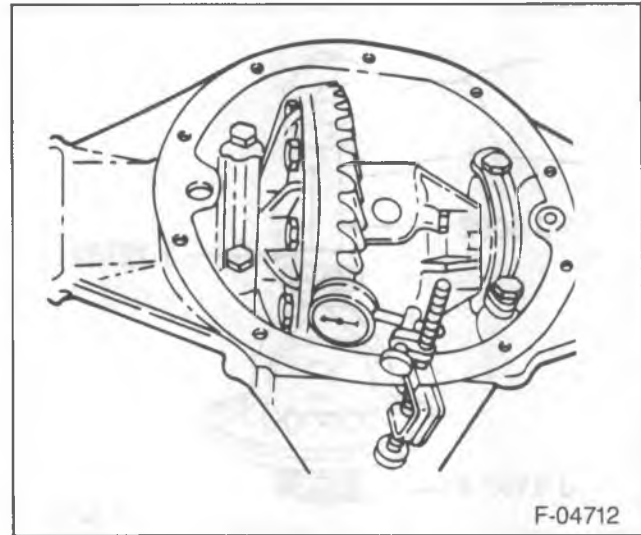

Figure 24—Checking Ring Gear Backlash
- Set the dial indicator so that the stem is in line with the gear rotation and perpendicular to the tooth angle (figure 24).
5. Install the differential caps (10) and bolts (18).